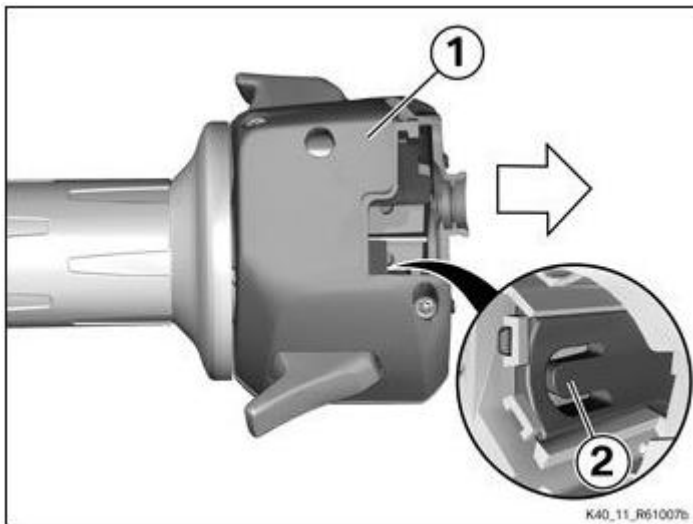

Fig. 3
- Press the retaining tab (2) upwards to release the switch unit from the fast throttle kit (Figure 3)